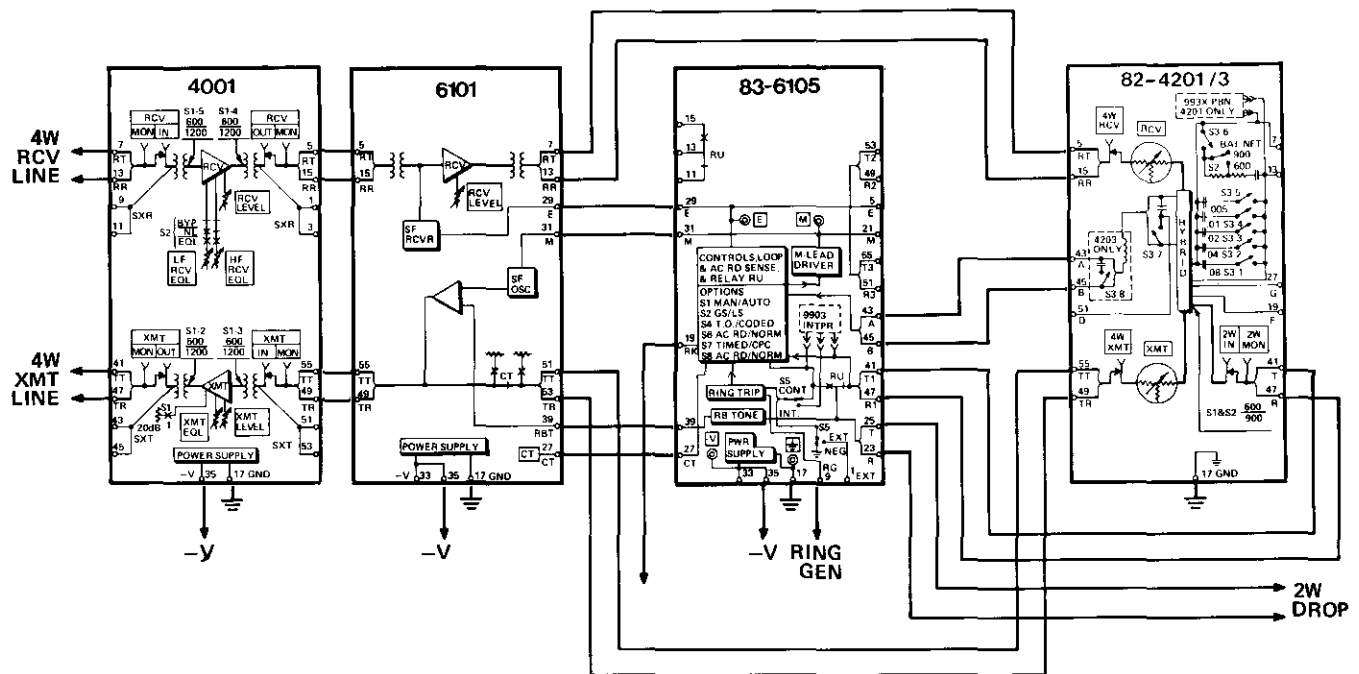

figure 3. Connections required in typical 260 or 261 System application
3.05 Figure 3 shows the connections required when the 6105 is used in an Issue 2 Tellabs 260 or 261 signaling and Terminating System. Internal connections in Tellabs 260 and 261 Systems are universally prewired. Only external connections need be made.